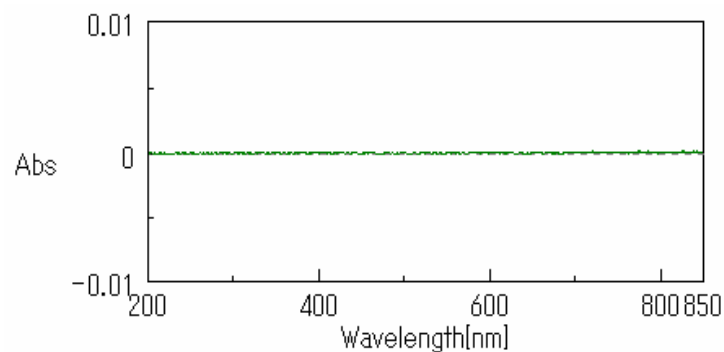

Fig 4.1 Baseline flatness (V-550/560/570)
(4) Measure baseline spectrum (0 Abs line) as follows. Click the <Start> button to measure the baseline spectrum (0 Abs line) using the above parameters with the sample chamber empty. A measurement example is shown in Fig 4.1.
(5) The baseline flatness is normal if the measurement result is within the following criterion.
- (2) Set the following parameter and measure the baseline spectrum (0 Abs line) with the sample chamber empty. (Refer to Section 5-3 of the Operations manual.) A measurement example is shown in Fig 4.1.